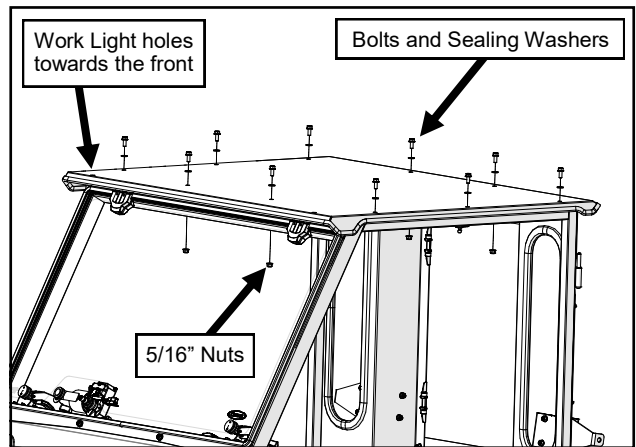

Fig. 15.2 (Install Roof)
15.2 Orient the roof so that the two work light holes are towards the front of the vehicle. With assistance, set the roof on top of the cab. Loosely secure with sealing washers on the (10) screws through the top of the roof. See Figure 15.2.